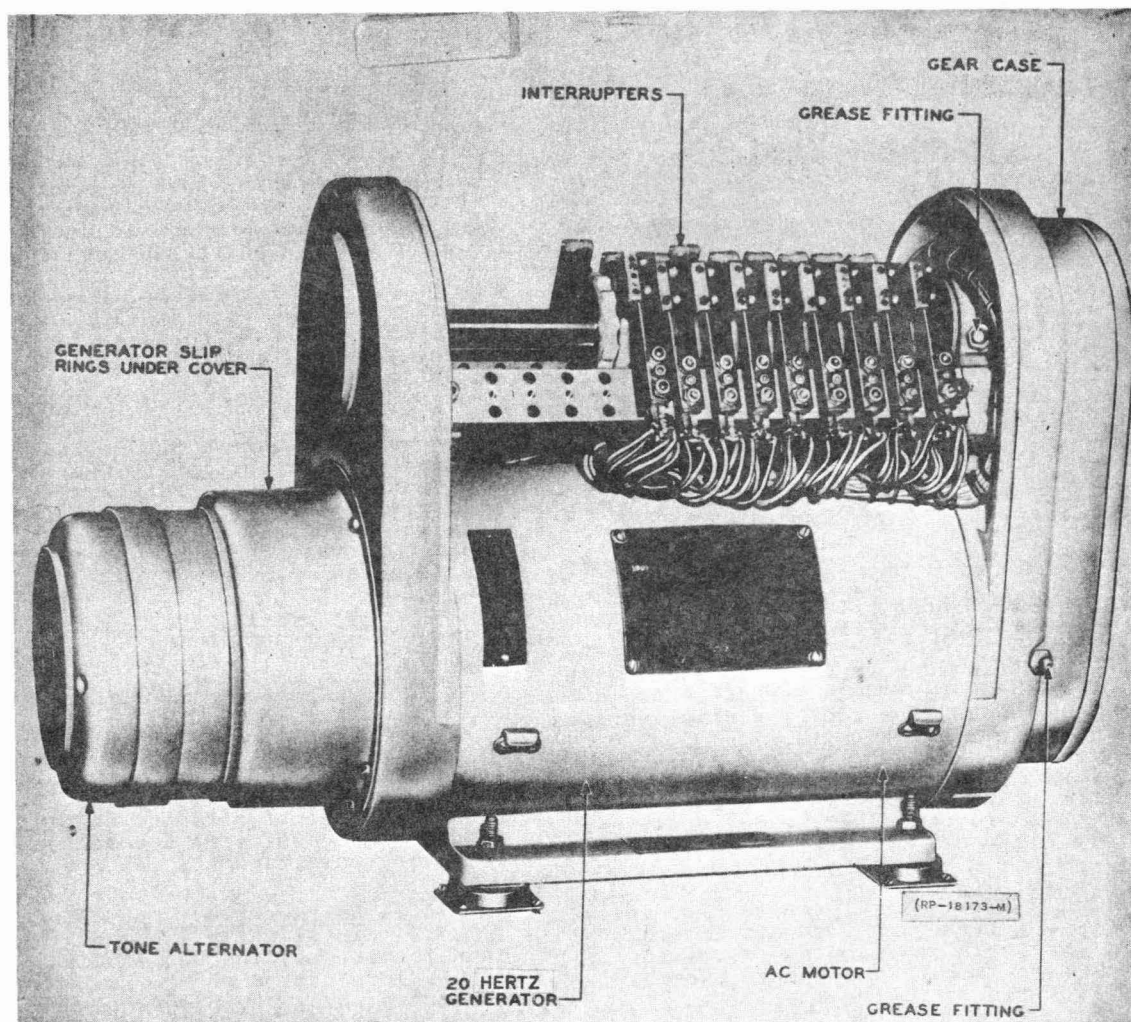

FIG. 3 TYPICAL AC MOTOR-DRIVEN KS-15532 RINGING MACHINE
1.43 KS-15532 (See Fig. 3) has an ac motor, either single phase or three-phase, or 48 volt dc motor driving a 20 Hertz alternator with a rated output of 1 ampere at 86 volts. A crank is furnished for timing the interrupters.